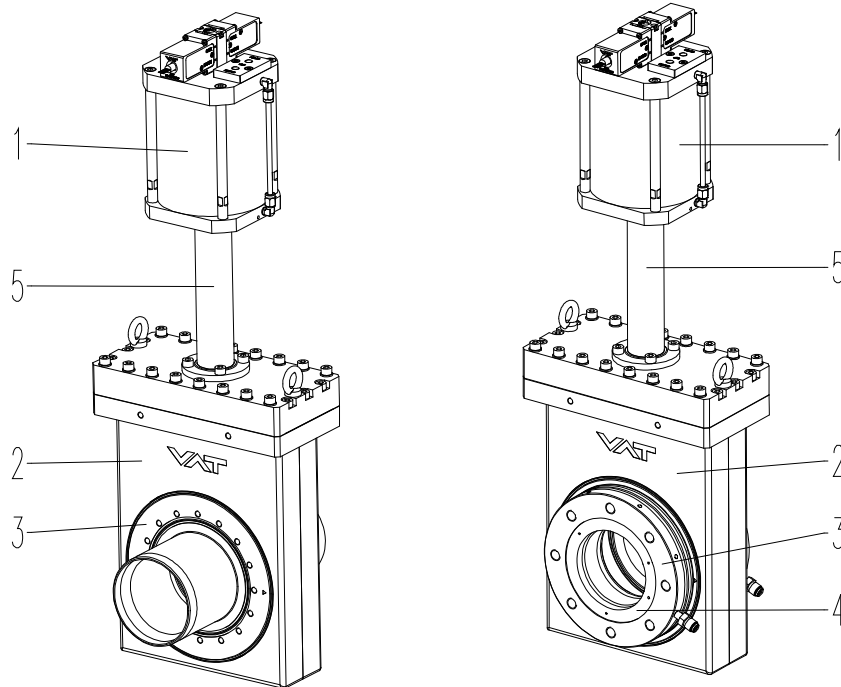

Figure 3-1
3. Clean sealing surfaces; see «Figure 3-1» on page 7, with a cleanroom wiper soaked with pure alcohol (Isopropanol).